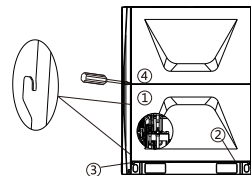

Figure 1
- While removing the panel① for the first time, we need take out the EPE cotton② on the bottom and loosen screws②. Pat the panel or insert a screwdriver to the gap between the panels④, pry down the panel gently. Please prevent the panel from slipping, as shown in Figure 1.